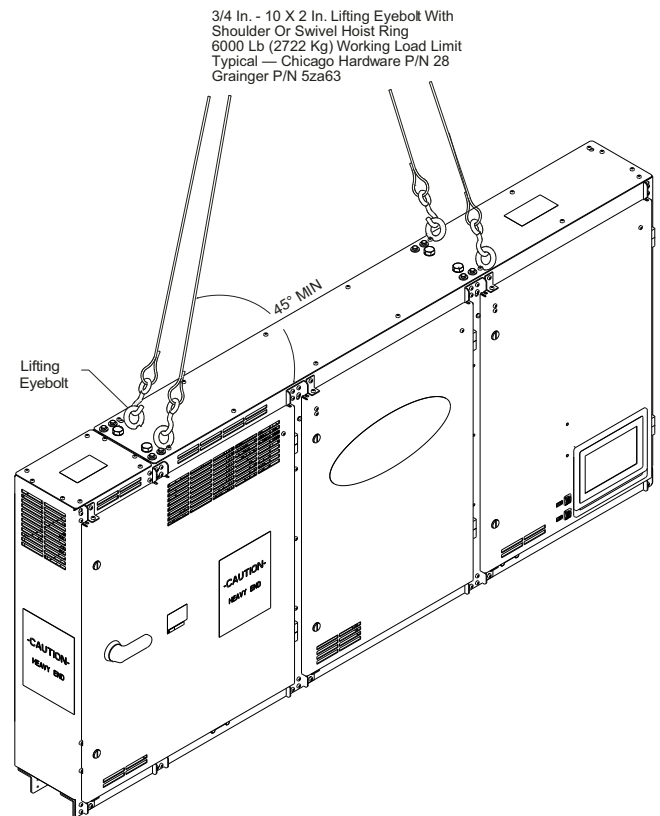

Fig. 27 — Control Center Lifting Points
1. Remove the rubber hole plugs in the top of the control center and fully thread in 4 eyebolts or swivel hoist rings (see Fig. 27). Lifting hardware must have 3/4 in.-10 x 2 in. long threads and must have a working load limit of at least 6000 lb (2722 kg). Typical eyebolts are Chicago Hardware (size 28) or Grainger (P/N 5ZA63).
4. Rig the control center and remove the bolts that secure it to the VFD mounting brackets on the condenser (see Fig. 27).